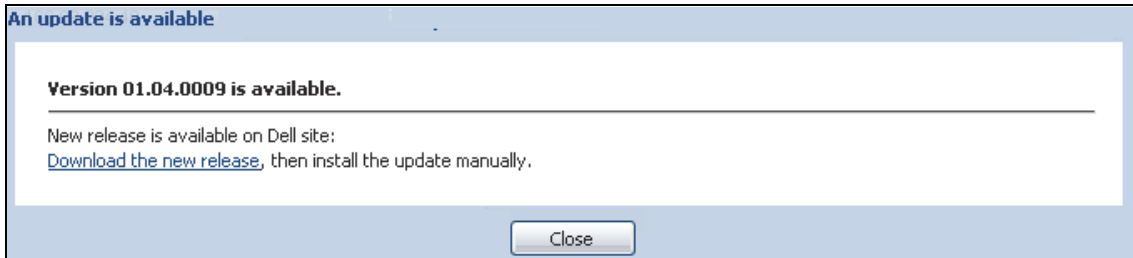

Figure 60. Applications Upgrade Message
- From the Applications upgrade panel, click **Update** (see Figure 60).